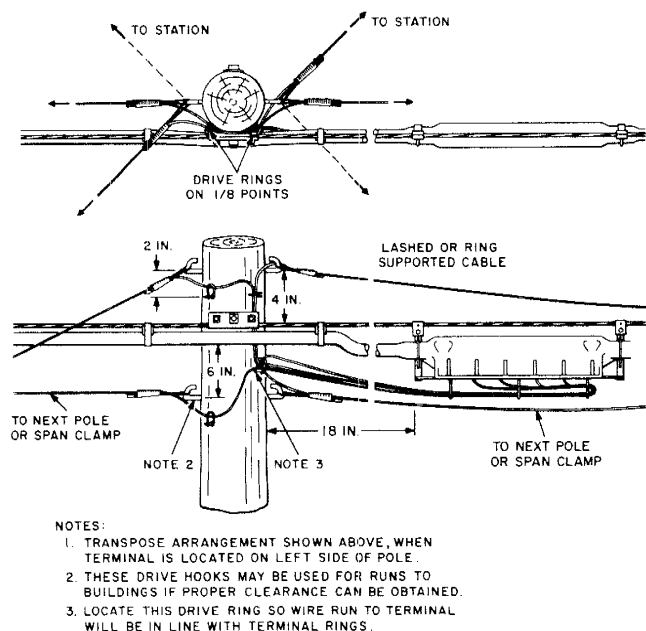

Fig. 1—Strand Mounted Terminal
2.02 The wiring arrangements for strand mounted and pole mounted terminals are indicated in Fig. 1, 2, and 3.